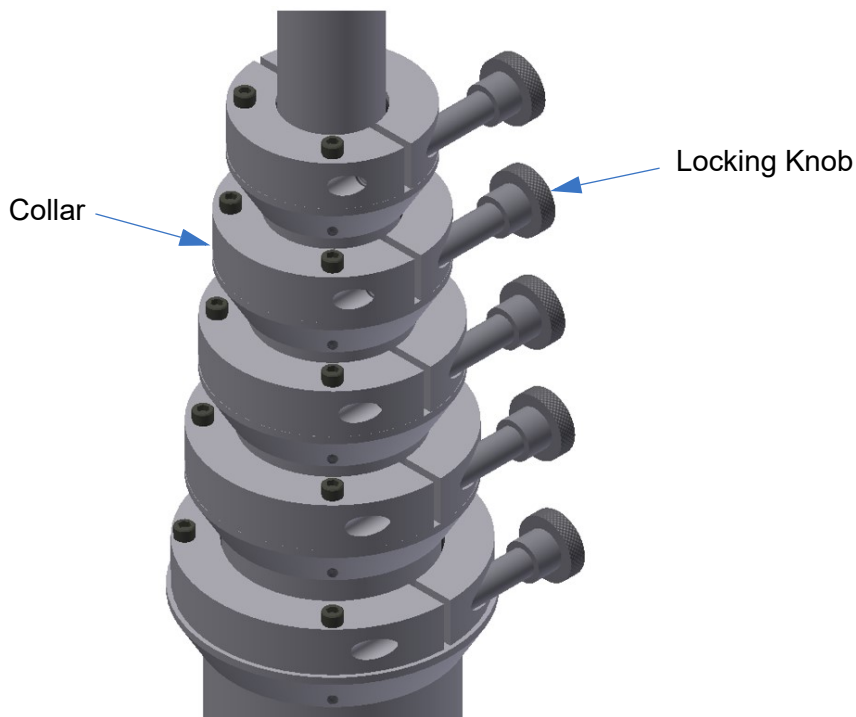

Figure 6-1 Loosen Locking Knob on Collar
5. Unlock the top tube collar. To unlock the collar, loosen the locking knob (Figure 6-1).